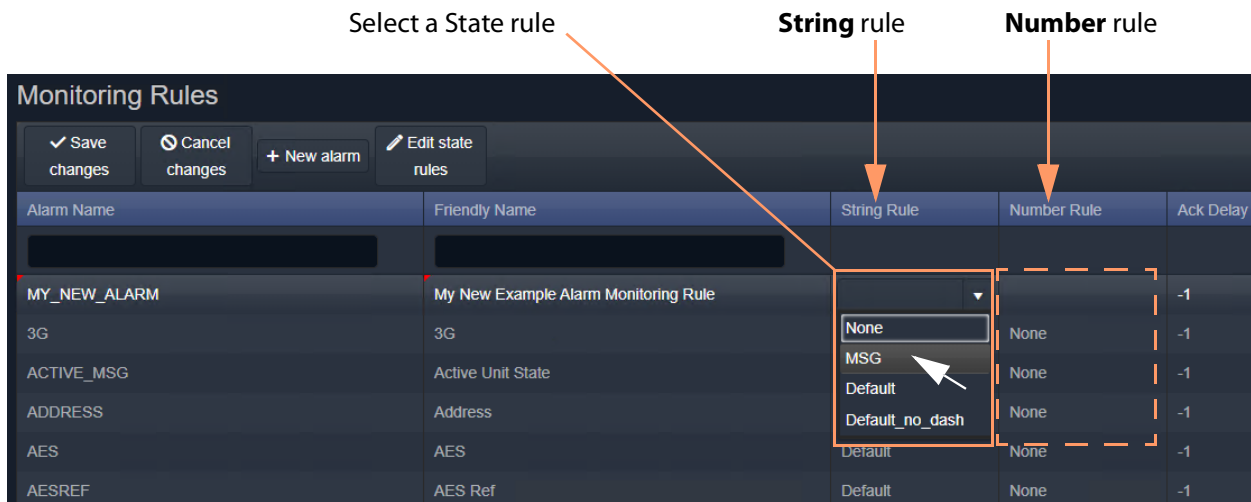

Figure 74: Select a State Rule to Use (String or Number)
- Select state rule to use (for example, a **String** rule and/or a **Number** rule). See Figure 74.